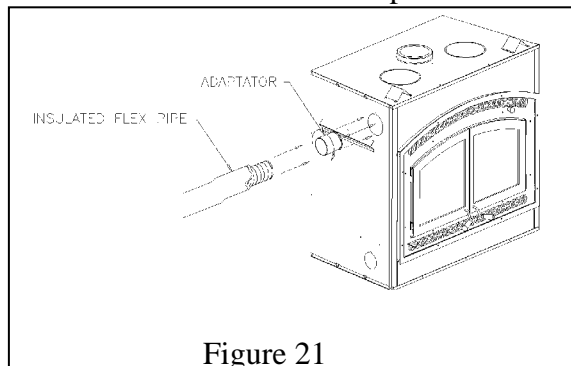

Figure 21
- A) Fix the adaptor at the back and/or the side of the fireplace by twist-locking the adaptor to the fireplace. You can use more than one outlet on the fireplace (figure 21).